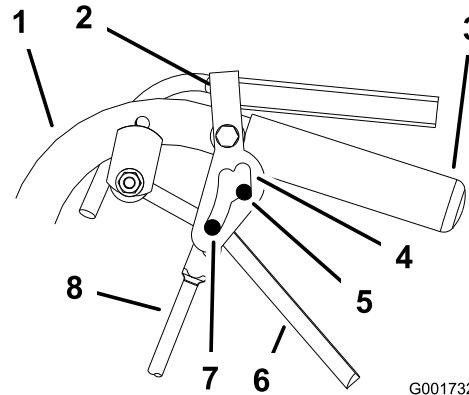

Figure 37
5. Release and engage the neutral lock, and ensure that the tire does not rotate (Figure 37). Continue this process until the tire does not rotate.